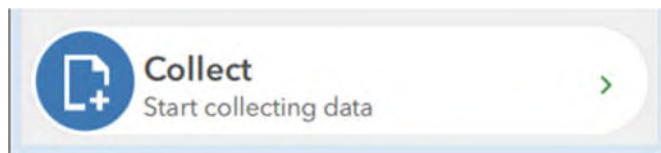

Figure 10- Collect Button (all forms)
4. Select the “Collect” button (Figure 10) to open the form.